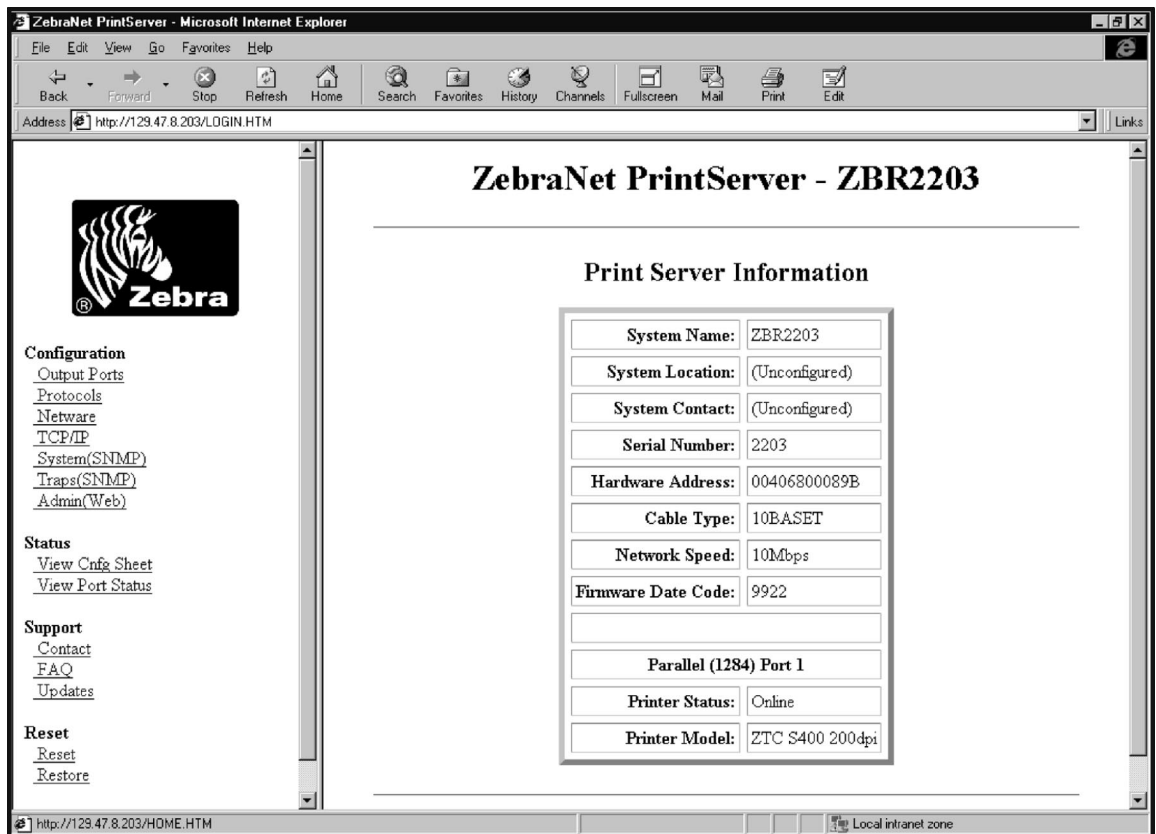

Figure 5. ZebraNet Web-view example
- You may use a standard **Web Browser** to setup and manage your PrintServer II after you assign it a **TCP/IP** address using either **HP JetAdmin** or the **ZebraNet View** utility. (Simply type: `http:\\ip_address` - i.e. `http:\\129.47.8.203`.) Refer to Figure 5 for an example of the ZebraNet Web-view window.